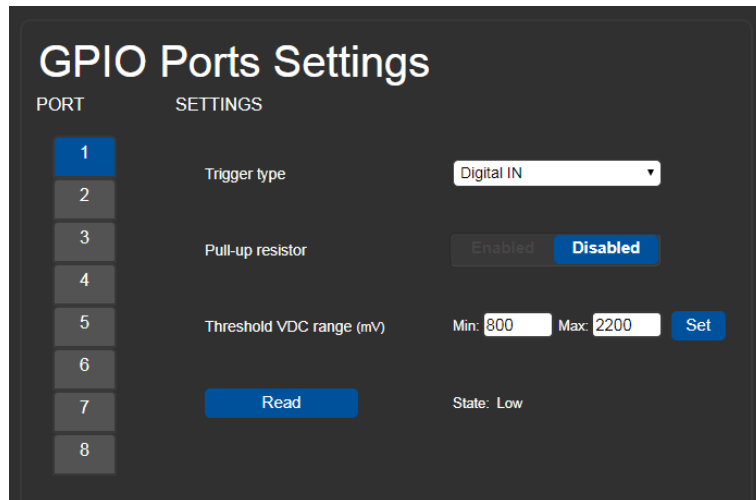

Figure 10: GPIO Ports Settings Page – Digital IN Trigger Type
1. On the GPIO Ports Settings page, select Digital IN from the Trigger type option box (Figure 10).
The Digital IN options appear (Figure 10).
1. On the GPIO Ports Settings page, select Digital OUT from the Trigger type option box (Figure 10).
1. On the GPIO Ports Settings page, select **Analog IN** from the Trigger type option box (Figure 10).